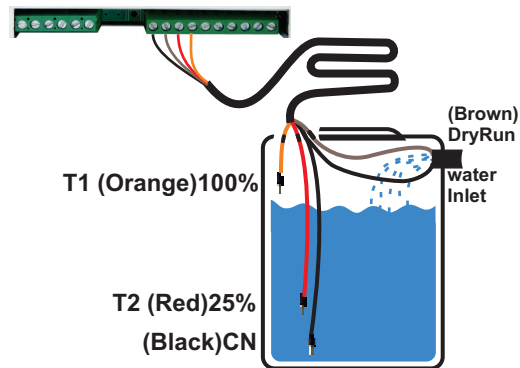

Figure4: sensor connection
Step 5: Lay 6 core cable between controller and tank. Join one end of the 6 core cable to sensor line connector of controller as per label. In tank side, **Contact type sensor connection:** Take the sensors and cut them according to the levels of tank and join them with the 6 core cable as per label coded. (Refer figure. 4) **Magnetic float sensor connections:** These Sensor has 2 wires, Use any one wire in each sensor as common. Other wires left in each can be used for levels. Join them with the 6 core cable as per label coded.
Step 6: Immerse the Sensors inside the Over Head Tank (OHT) and tape it. Sensors should be in 25% and 100% of tank. Dry run sensor should be fixed in the inlet of the tank. (Refer figure. 4)